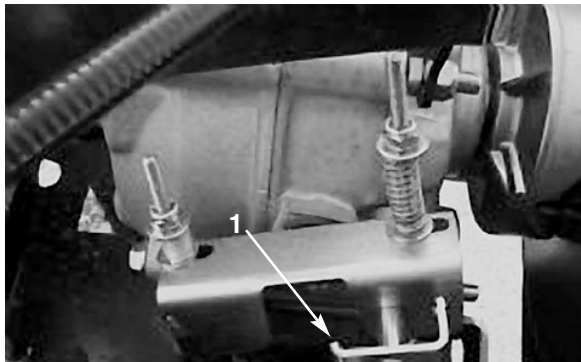

Figure 16
1. To lock the transaxle in neutral, rotate the locking pin 180 degrees on the shift block (Fig. 16).